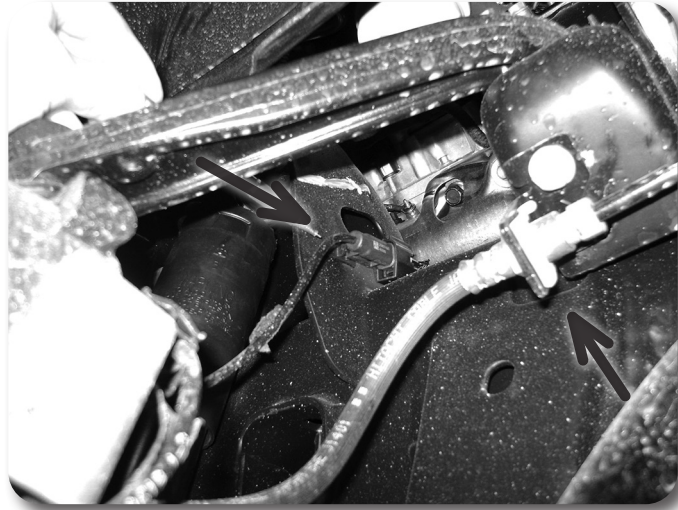
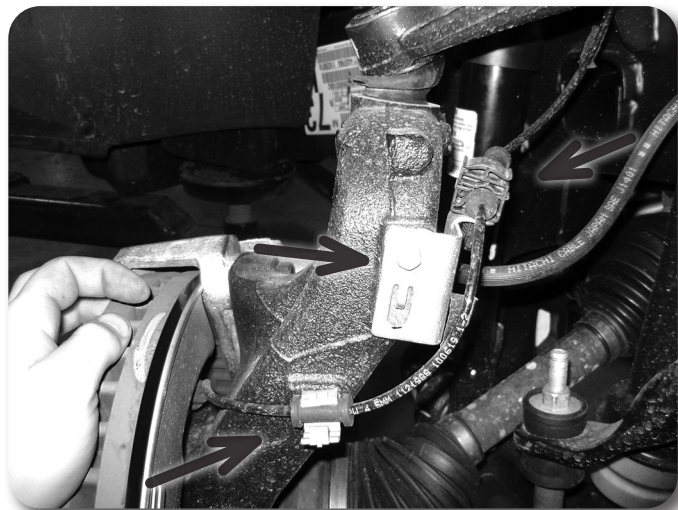

Figure 5
Figure 6
13. Disconnect the ABS brake wire from the connector at the frame **Figure 5**. Remove the wire from the plastic retainers on the frame/steering knuckle and brake line bracket on the steering knuckle **Figure 6**.
14. Disconnect the rubber brake line bracket from the steering knuckle **Figure 6**.